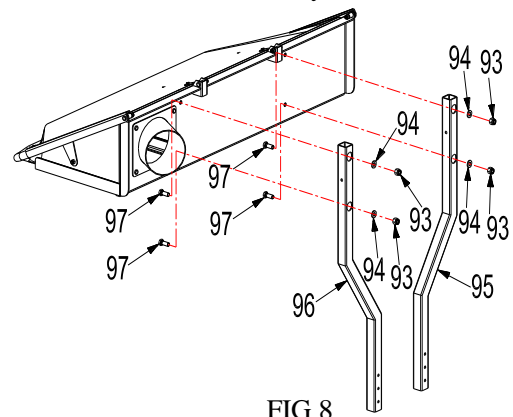

FIG 8
a) Attach the left and right hood frame suspension tubes to hood frame assembly. (FIG 8)